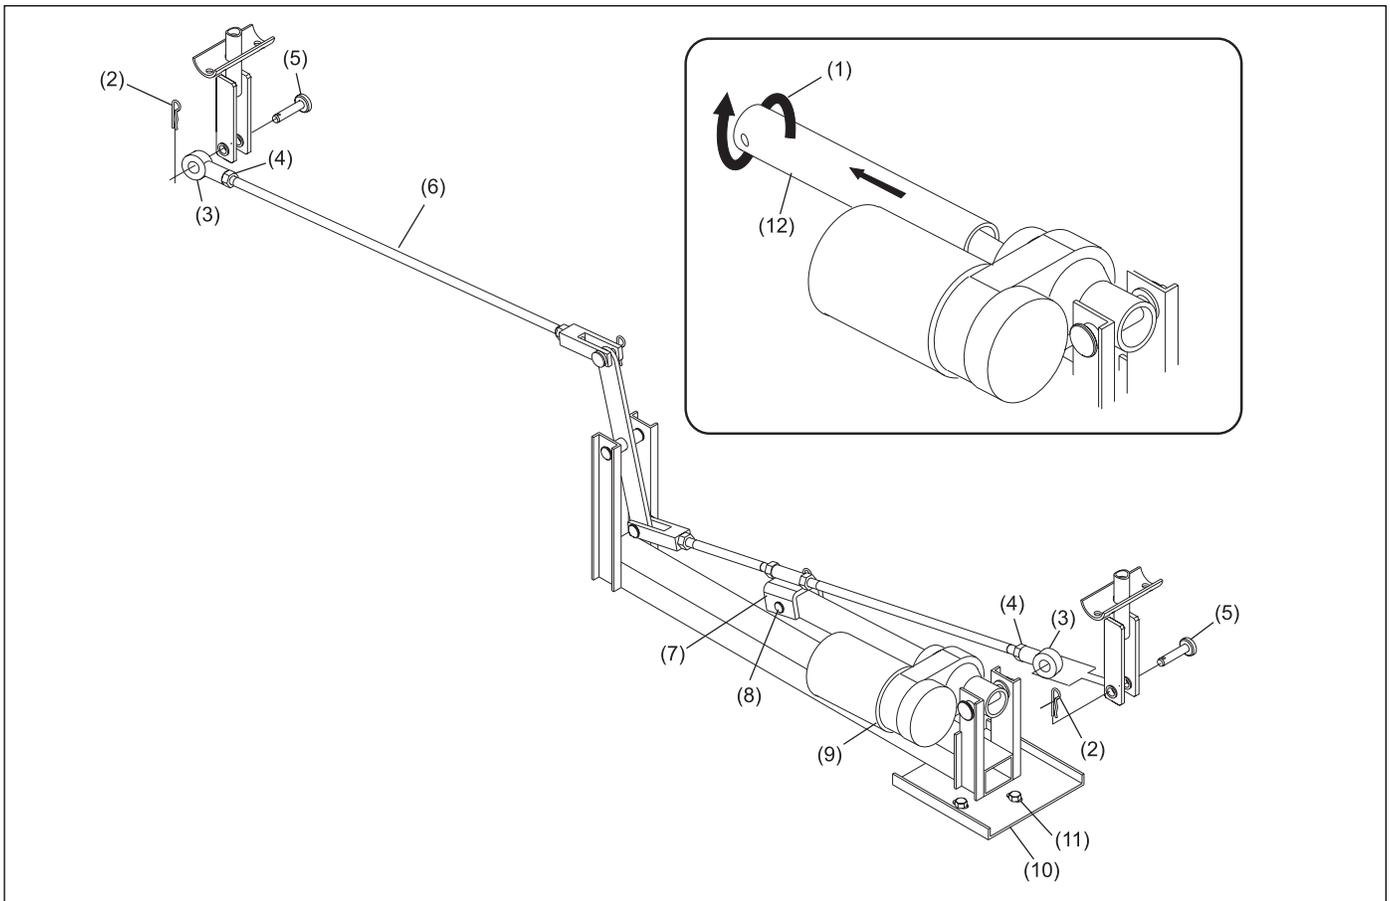

Figure 11. Mechanical Linkage Adjustment
2. Disconnect the clevis pins from the connecting rods on both ends of actuator. Refer to *Figure 11*.
- a. Remove motor adapter mount pin from motor adapter clevis. Refer to Figure 11.
- c. Grasping sleeve, rotate sleeve counterclockwise (CCW) to increase open stroke. Rotate sleeve clockwise (CW) to decrease open stroke. Refer to *Figure 11*.
- b. Rotate connecting rod end to lengthen or shorten the rod to clevis distance. Refer to *Figure 11*.